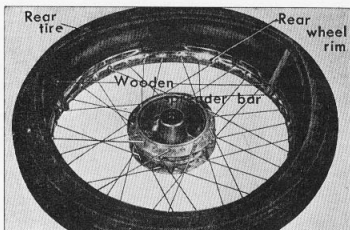

Figure 4-30. Inspecting internal surface of tire
- (6) Wash and clean the 6301 ball bearing. Check the bearing for wear and for roughness by rotating the bearing. Replace any defective bearing.
- (7) Check the brake shoe spring for loss of tension, check the oil seal for any damaged or deformed lips, and check the 40.5 mm "O" ring for damages and loss of tension. Replace any defective parts.
- (8) Inflate the tire and check for air leaks. Check the tire casing for imbedded nails, wires and other foreign objects. Use a spreader to assist in the inspection. (Fig. 4-30)
- (9) Damaged or deformed rear wheel dampers should be replaced.